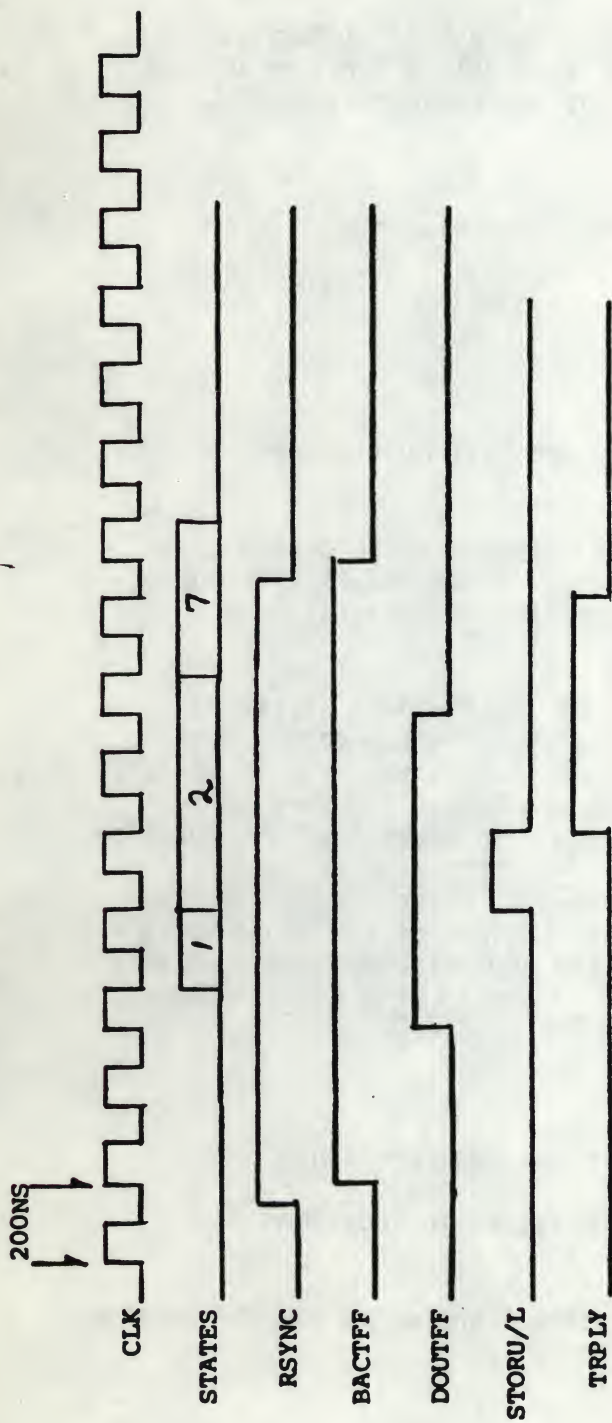

Figure 5-4: DATO - SLAVE, Q BUS TRANSFERS
The sequence for a DATO operation is shown in Figure 5-4. DATO operations transfer commands to the coupler registers. A DATO is similar to a DATI. The principle difference is that during a DATO, the Data Out FF rather than the Data In FF is set and the Data Available (DA) signal is not generated.